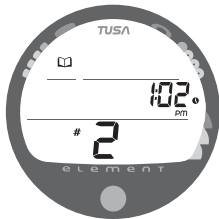

Fig. 55 - LOG PREVIEW
- > The first screen (Dive Preview/Identifier) of the most recent dive conducted will appear displaying (Fig. 55) -